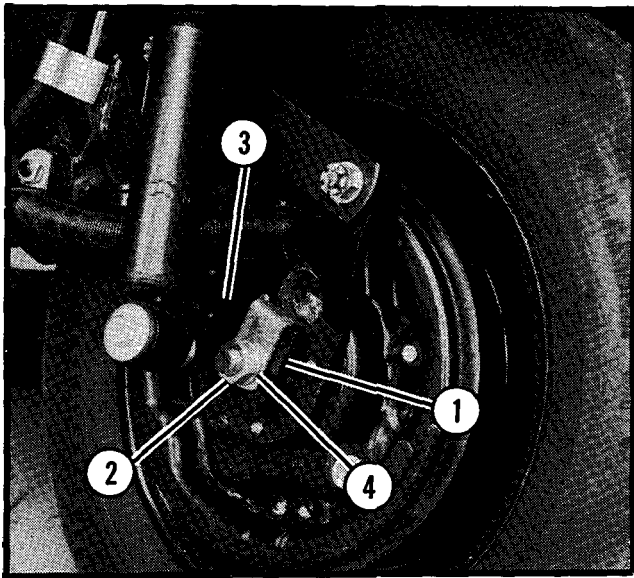

Figure 13.
1. Reinstall the entire wheel, hub, brake and axle assembly. Make sure all parts are properly positioned. See Figure 13.